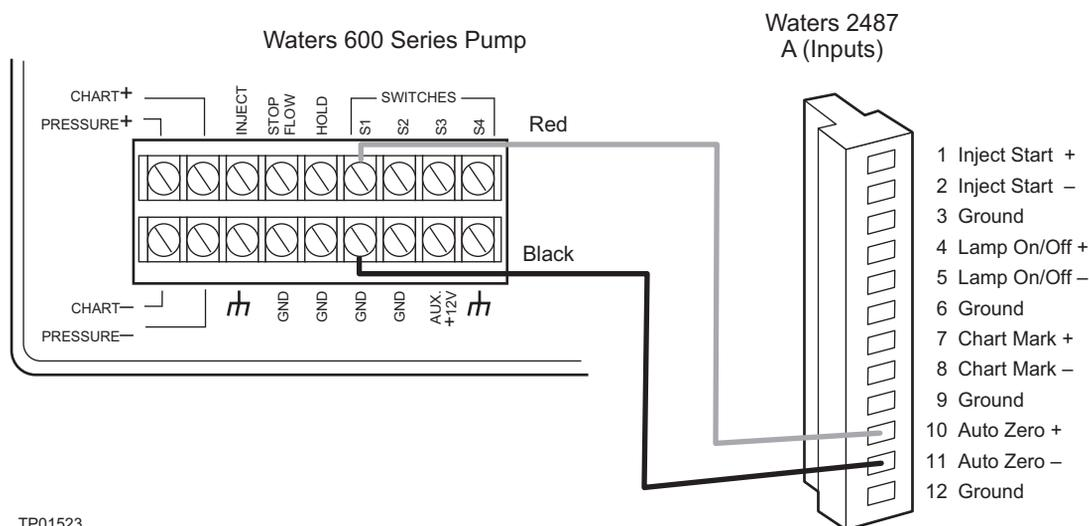

Figure 2-21 Waters 600 Series Pump Auto Zero Connections
1. Using a signal cable, make the connections between the 2487 Detector and the Waters 600 Series Pump that are summarized in Table 2-11 and illustrated in Figure 2-21.
1. Using a signal cable, make the connections between the 2487 Detector and the Waters 600 Series Pump that are summarized in Table 2-12 and illustrated in Figure 2-21.